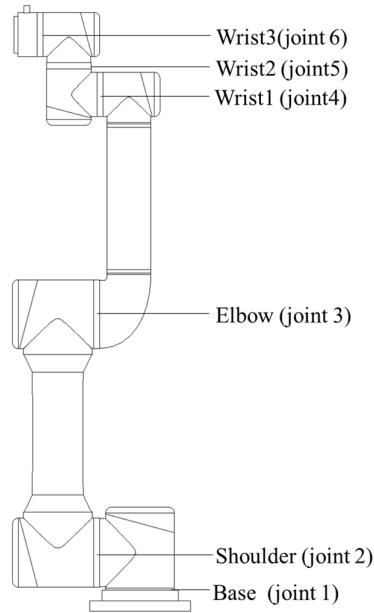

Figure 5.1 Manipulator Joints
As shown in figure 5.1, The AUBO-i5 robot system consist of a manipulator, a control box(which can choose a variety of models, CE, NRTL, KCs), a manipulator base and a teach pendant. The manipulator imitates human which has six joints and each joint represents a degree of freedom. As shown in figure5.2, manipulator's joint includes a robot base (A), a shoulder (B), an elbow (C), a wrist1(D) ,a wrist2(E) and a wrist3(F). The manipulator base is used for the robot body and the base connection. End-effector is used to connect manipulator and tool. Aluminium pipe is used to connect shoulder and elbow or elbow and wrist. Through the AUBOPE user interface or hand-guiding, users can control the rotation of every joint and move end-effector to any poses.